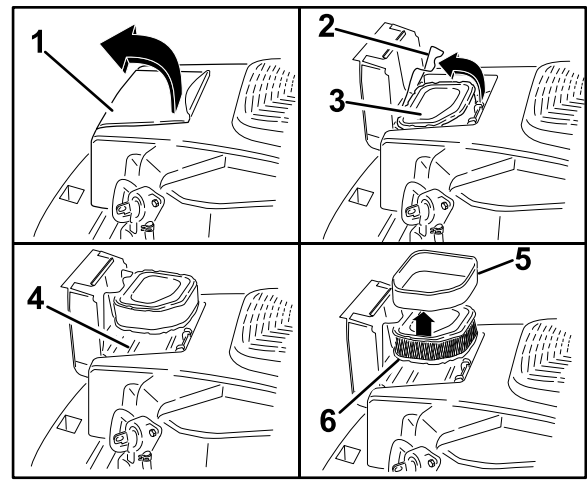

Figure 38
1. Open the air cleaner cover door on the blower housing to access the air cleaner element (Figure 38).
2. Unhook the latch and remove the air cleaner (Figure 38).
2. Unhook the latch and remove the air cleaner(Figure 38).